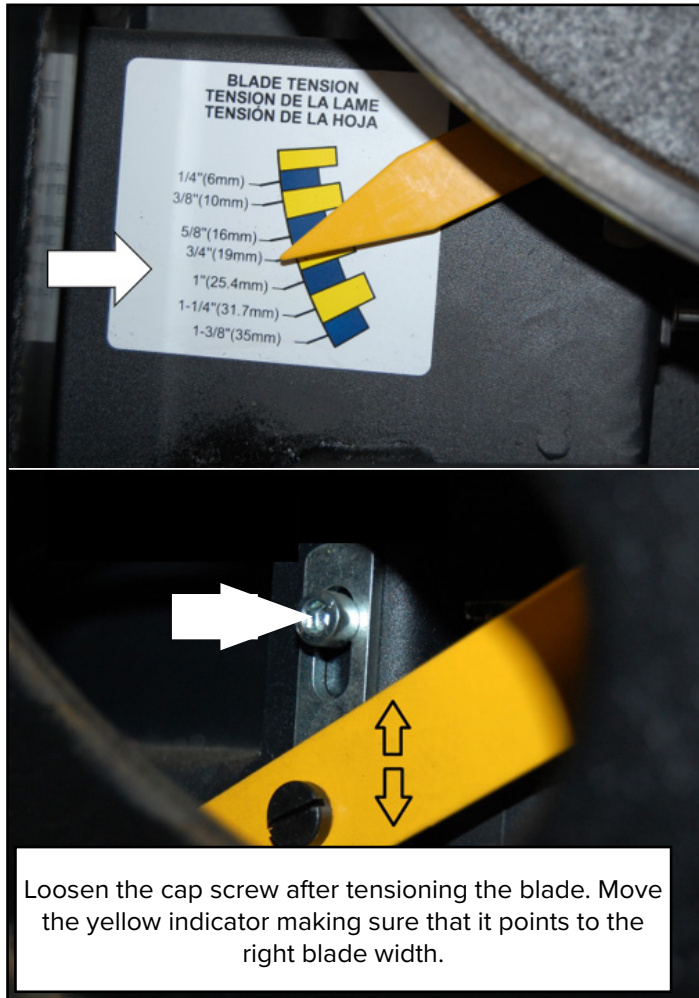

Figure 14: Adjusting the Indicator.
- With moderate tension on the blade, loosen the two adjusting screws Fig.14 (A) using a Phillips-head screwdriver.